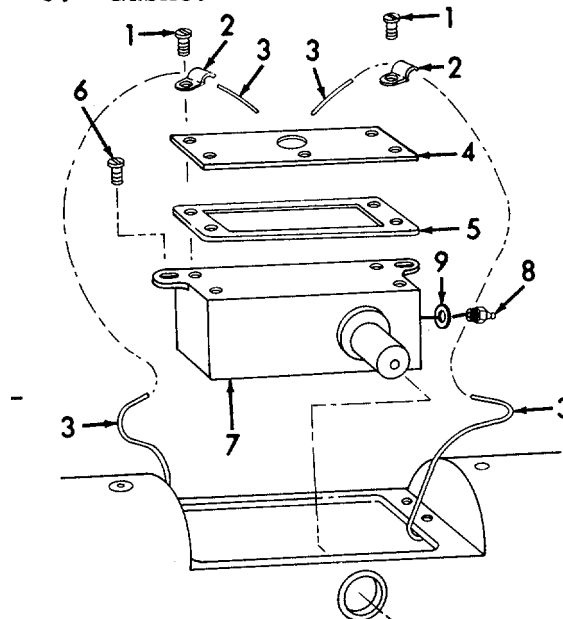

Figure 6-34. Upper (Arm) Oil Reservoir, Removal.
- (4) Refer to Figure 6-34. Remove four screws (1), two clamps (2), and two oil wicks (3) from top of cover (4).
- (5) Remove cover (4) and gasket (5). Discard gasket (5).
- (6) Use a clean rag and soak up all oil in the reservoir.
- (7) Remove two screws (6) and reservoir (7) and then disconnect two oil lines from bottom of reservoir.
- (8) If required, remove two connectors (8) and two gaskets (9). Discard gasket (9).